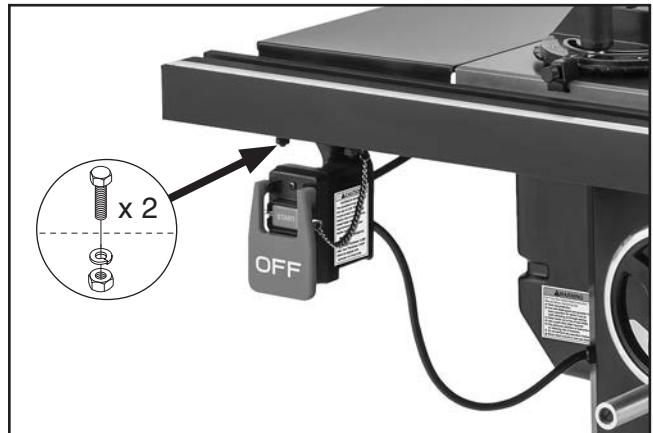

Figure 24. Switch installed.
- 14.** Install switch on hex bolts from **Step 10** using (2) M8-1.25 hex nuts and (2) 8mm lock washers (see **Figure 24**).